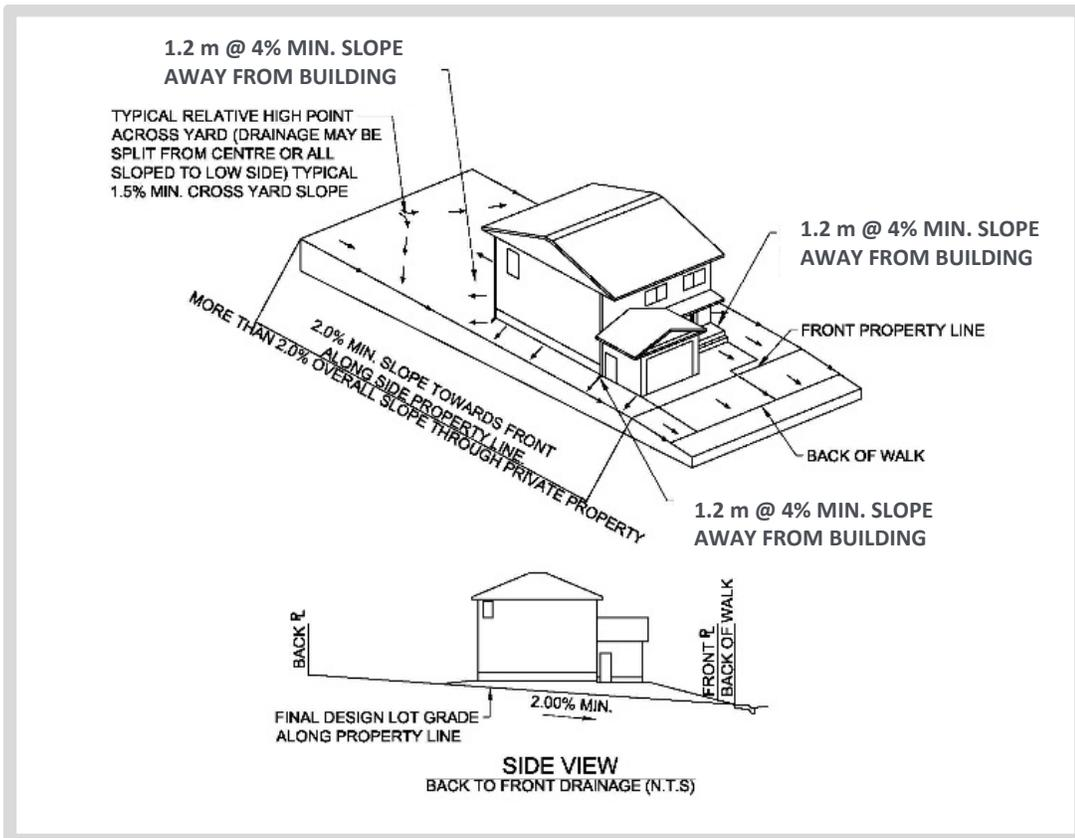

Figure 8 – Rear-to-Front Drainage. Source: The City of Calgary
1. Rear-to-Front (as shown in Figure 8)